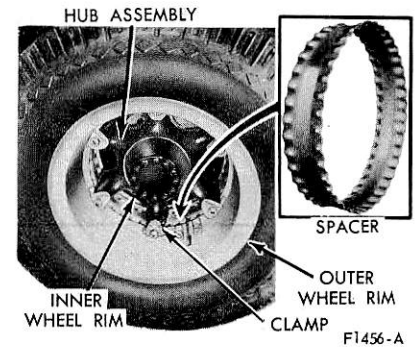

FIG. 5 Three-Piece Rim Installed on Cast Wheel
3. Place the outer rim and tire assembly on the wheel, and install the 6 clamps (Fig. 5). First, draw up the top clamp tightly so that the spacer will push the inner rim up on the tapered surface of the inner section of the wheel, and then tighten the bottom clamp. This procedure tends to center the rim on the wheel.